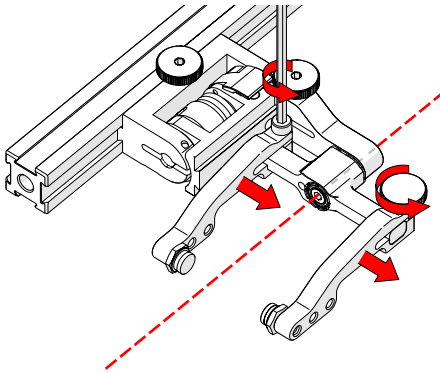

Fig. 80 - Adjust probe holder arms
5. Loosen the arm clamp screw and the probe holder arm adjustment knob (Fig. 80), and remove the outer probe holder arm from the yoke.
6. Adjust the inner probe holder arm as required to best centre the probe on the yoke's pivot axis (Fig. 80).
**TIP:** The probe holder yoke can accommodate many different probe and wedge sizes of varying widths. It is best to centre the wedge with the yoke's pivot axis to reduce wedge tipping when scanning. Position the inner probe holder arm accordingly with the centre of the yoke (Fig. 80).